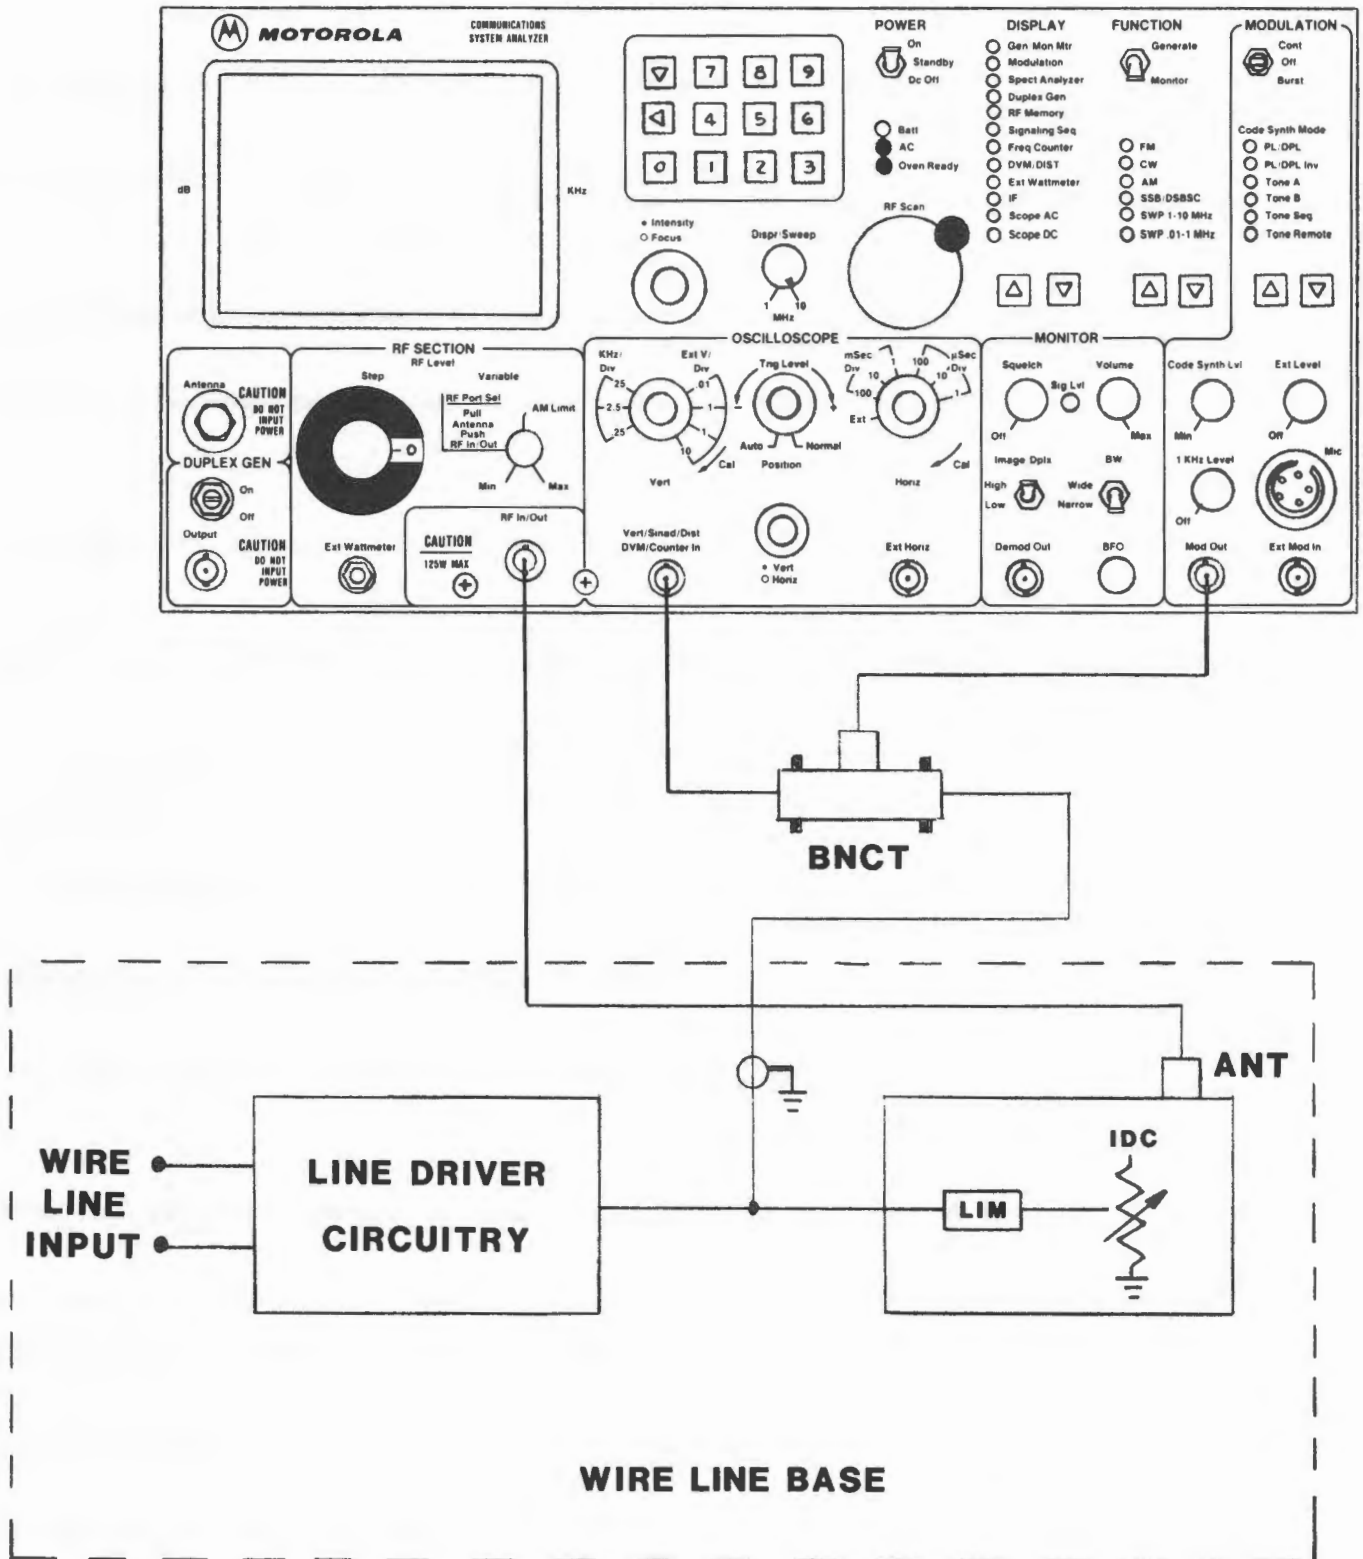

FIGURE 4-16. MODULATION SETUP; REMOTE BASE
2. Connect the Analyzer to the transmitter under test as shown in figure 4-16.